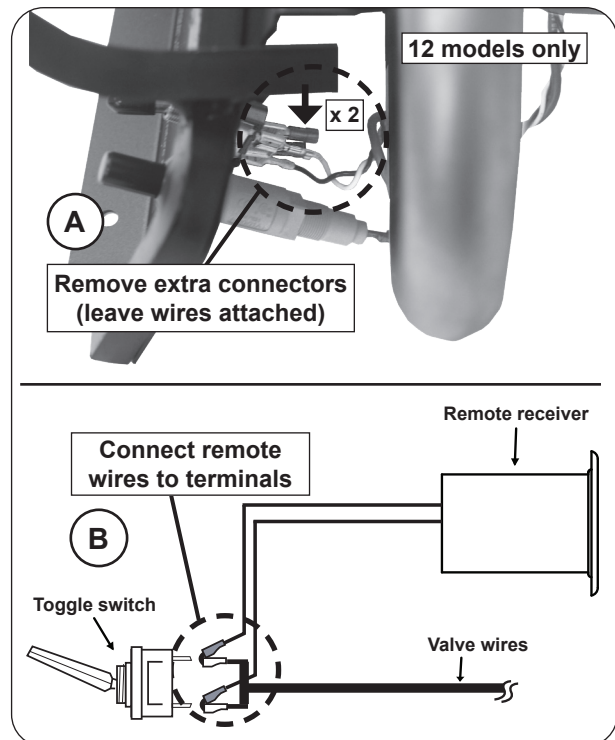

Fig. 18-1 Connect remote receiver to switch (if applicable)
2. **12 Models:** Locate the toggle switch on the right front of the burner. Remove and discard the two extra connectors on the terminals. See Fig 18-1, A.
Then locate the wires coming off of the remote receiver, and connect them to the two now exposed terminals on the toggle switch / valve wires (see Fig. 18-1, B).